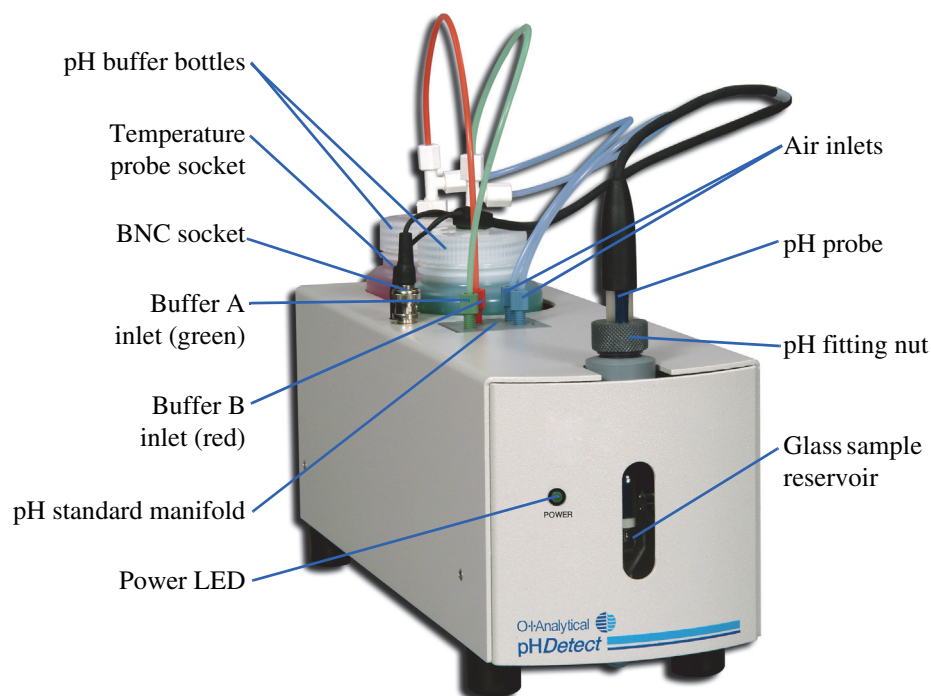

Figure 7.1. pHDetect module front view
10. Fill the pH buffer bottles (see Figure 7.1 for the location of the buffer bottles) with the appropriate buffer solutions as described below:
- b. Loosen and remove the pH fitting nut from the pH manifold cap (refer to Figure 7.1 for the pH manifold cap location).
12. Plug the pH probe's BNC connector into the BNC socket of the pHDetect located on the top of the unit (refer to Figure 7.1 for the BNC socket location).